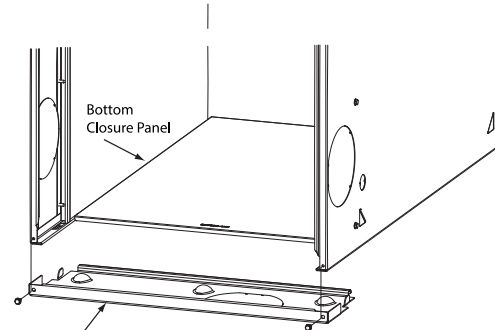

Fig. 9 – Removing Bottom Closure Panel
- Tilt or raise furnace and remove 2 screws holding bottom filler panel, see Fig. 9.
1. Tilt or raise furnace and remove 2 screws holding bottom filler panel, Fig. 9.
1. Tilt or raise furnace and remove two screws holding bottom filler panel, see Fig. 9.